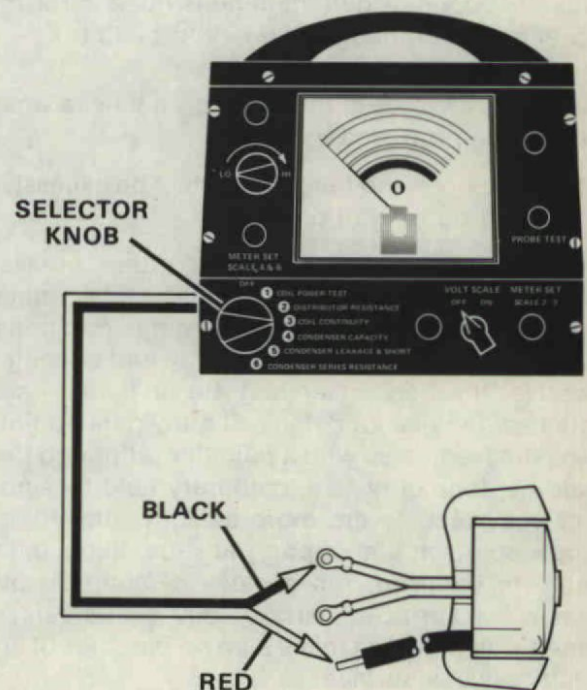

Figure 40. Testing Coil Continuity. Test #2.
- Turn selector knob to "COIL CONTINUITY" position. Figure 40.